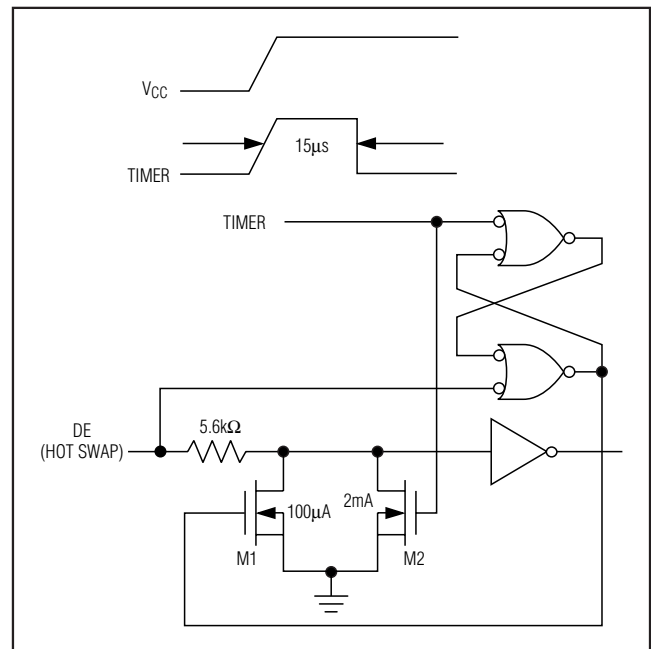

Figure 10. Simplified Structure of the Driver Enable Pin (DE)
At the driver-enable input (DE), there are two NMOS devices, M1 and M2 (Figure 10). When VCC ramps from zero, an internal 15μs timer turns on M2 and sets the SR latch, which also turns on M1. Transistors M2, a 2mA current sink, and M1, a 100μA current sink, pull DE to GND through a 5.6kΩ resistor. M2 pulls DE to the disabled state against an external parasitic capacitance up to 100pF that may drive DE high. After 15μs, the timer deactivates M2 while M1 remains on, holding DE low against three-state leakage currents that may drive DE high. M1 remains on until an external current source overcomes the required input current. At this time, the SR latch resets M1 and turns off. When M1 turns off, DE reverts to a standard, high-impedance CMOS input. Whenever VCC drops below 1V, the input is reset.